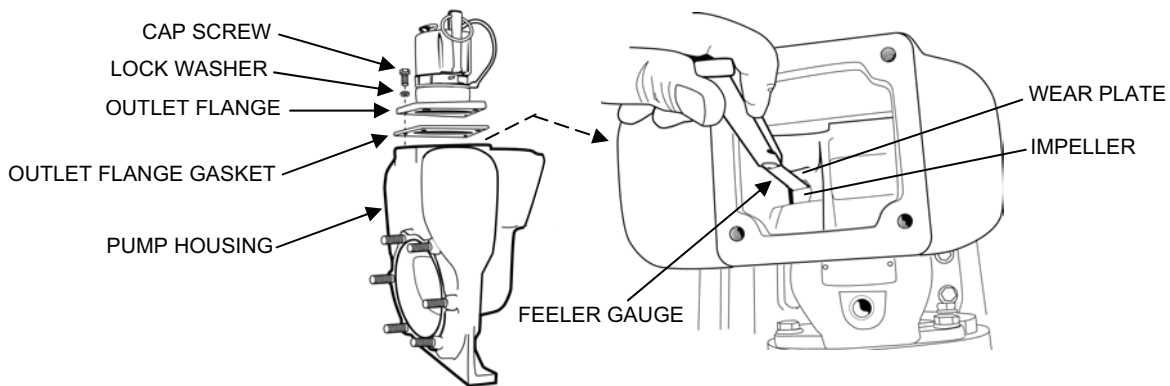

Figure 11. Pump Impeller Clearance Adjustment.
5. Set the gap between the impeller and the pump wear plate as follows (see Figure 11):